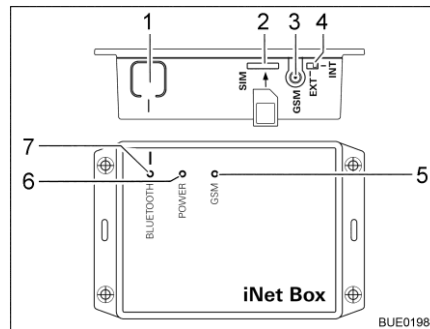

Fig. 84 Truma iNet-Box
- Press the BLUETOOTH button (Fig. 84,1) on the iNet-Box for 1 second. The Truma iNet-Box will be visible in the mobile terminal for approx. 2 minutes (name: "Truma iNet-Box"). During this period, the blue BLUETOOTH LED (Fig. 84,7) will be flashing.
- Carefully insert the mini SIM card with own telephone number and sufficient credit into the slot (Fig. 84,2) of the Truma iNet-Box as shown until it engages. The red GSM LED (Fig. 84,5) must be flashing continuously. If the red LED goes out after 20 seconds: Check mini SIM card.